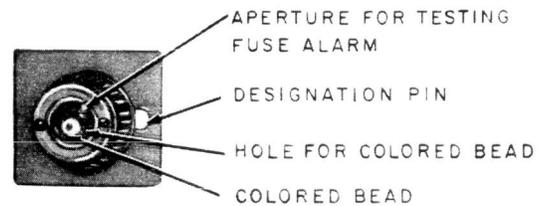

Fig. 2—70-Type Alarm Fuse With Alarm Test Point
Note: A test point is provided at the front of the fuse cap for 70-type fuses (Fig. 2). This test point should be used to test the fuse alarm.
(3) With the tip of the 411C test pick (attached to the battery connected W1AF cord), touch the exposed alarm test point on the fuse cap (Fig. 2) for one fuse.